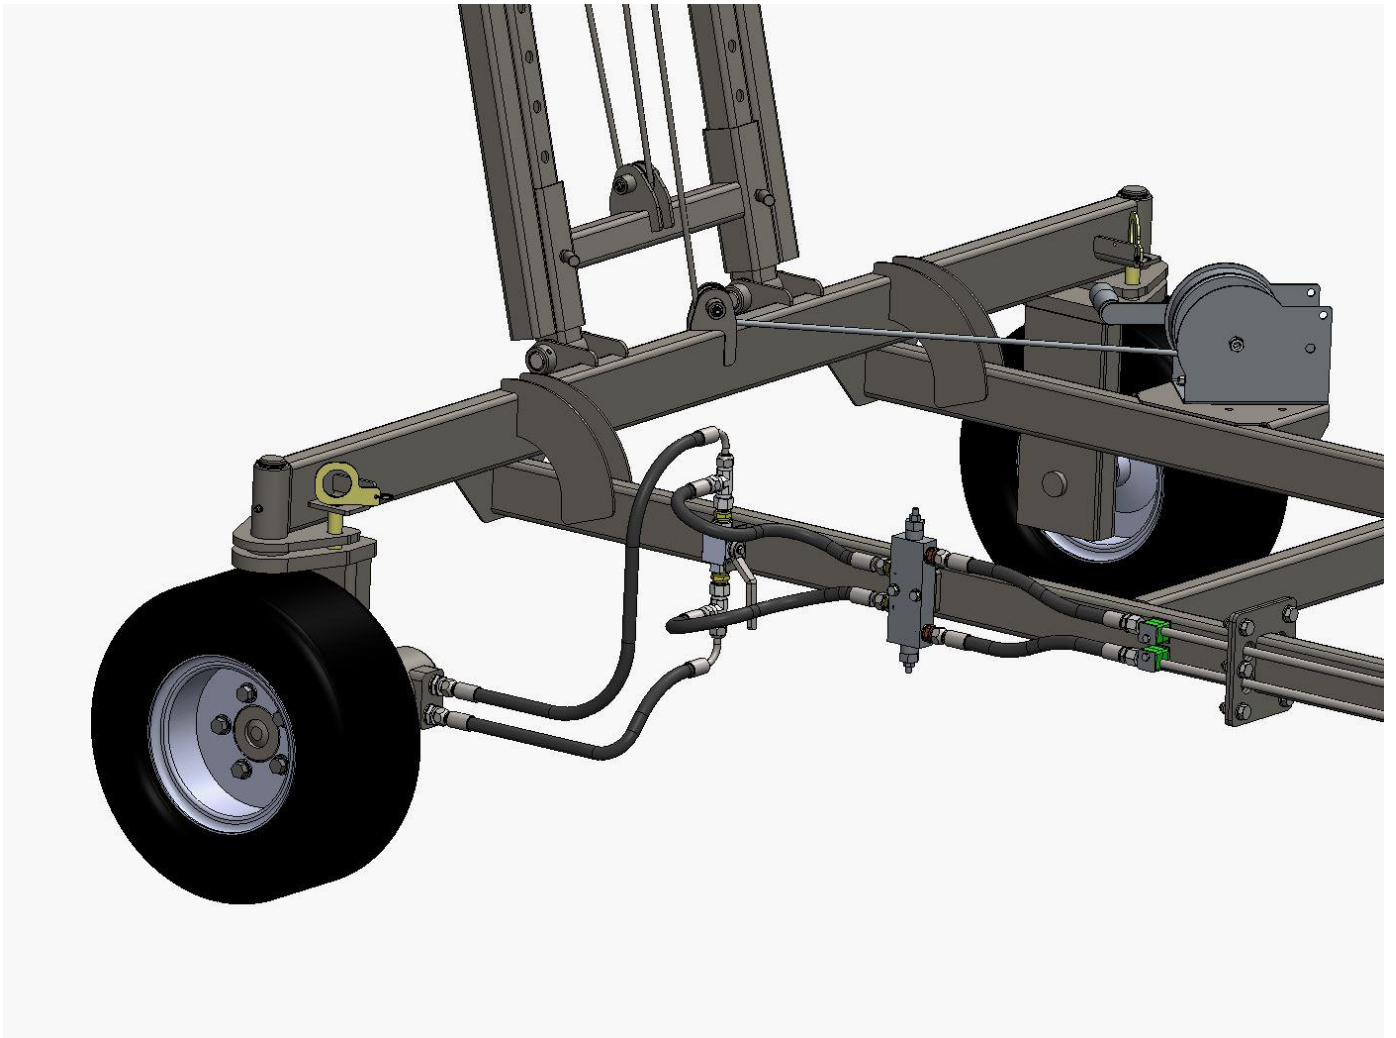

Figure 8.
3. Straighten the conveyor wheels and lock them in place with the locking rods, as shown in Figure 8.
4. Turn the valve in Figure 8 to the lower position so that the hydraulic oil can flow freely into the wheel's hydraulic motor.